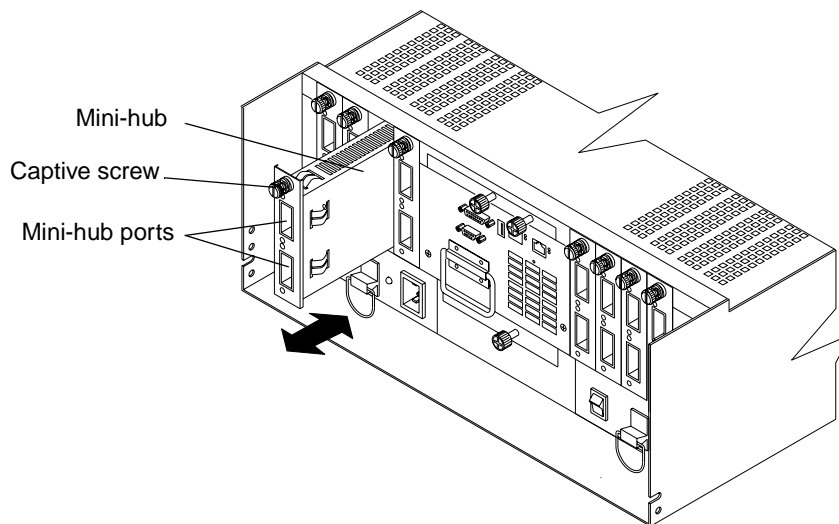

Figure 28. Removing and installing a mini-hub
The mini-hubs are located on the back of the controller unit (see Figure 28 on page 50). A mini-hub is a single, removable unit that provides the Fibre Channel interface between a controller unit and hosts or drives. The back of the controller unit can accommodate eight mini-hubs: up to four host side and up to four drive side mini-hubs. Each mini-hub has two ports. A Gigabit Interface Converter (GBIC) is installed in a mini-hub port. Then a fiber-optic interface cable is connected into the GBIC. For more information, see "Fibre Channel connections" on page 3 and "GBICs" on page 51.
- 3 Loosen the captive screw on the mini-hub; then, grasp the screw and pull the mini-hub from the chassis. Figure 28 shows the location of the mini-hubs and ports.